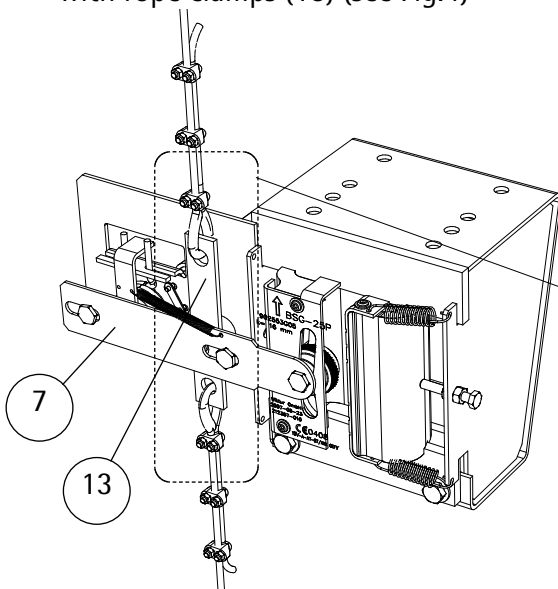

Fig. 3:
The fixing is done to the activation linkage (13) (max. plate thickness 5mm) on bolt (M10, see arrow) of the activation lever (7) (see Fig.3).